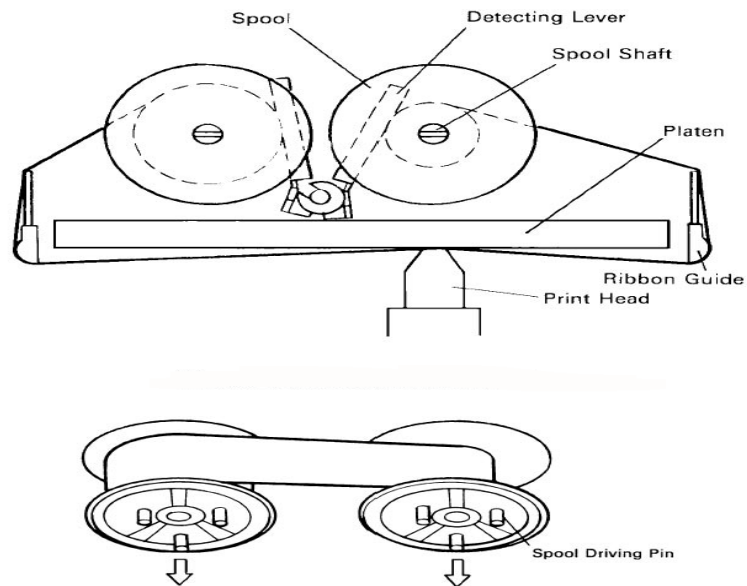

Figure 2-2. Installation of Ink Ribbon and Ribbon Spools
3. To install the new ribbon, unwind ribbon so the spools are separated as shown in Figure 2-2. Hold the ribbon taut, as shown, with the drive pins facing down and slide the ribbon between the print head and the platen. While keeping the ribbon taut, wrap one side around the black ribbon guide on the end of the platen and drop one spool on the spool shaft. As you move the spool downwards, move the detecting lever aside to allow the spool to drop into place. Make sure the spool drive pins engage with the spool drive holes. As the spool drops into place there will be a click.